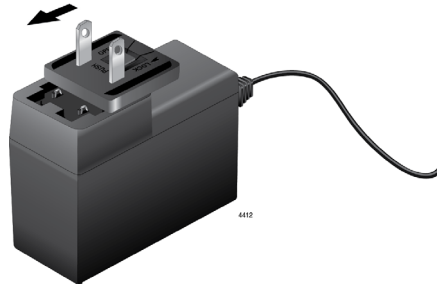

Figure 7. Installing an AC Plug on the AT-TQ0091 AC/DC Power Adapter
9. Slide the correct AC plug for your region into the slot on the adapter until it clicks into place. Refer to Figure 7 on page 32.
11. Slide the correct plug for your region into the slot on the adapter until it clicks into place. Refer to Figure 7 on page 32.